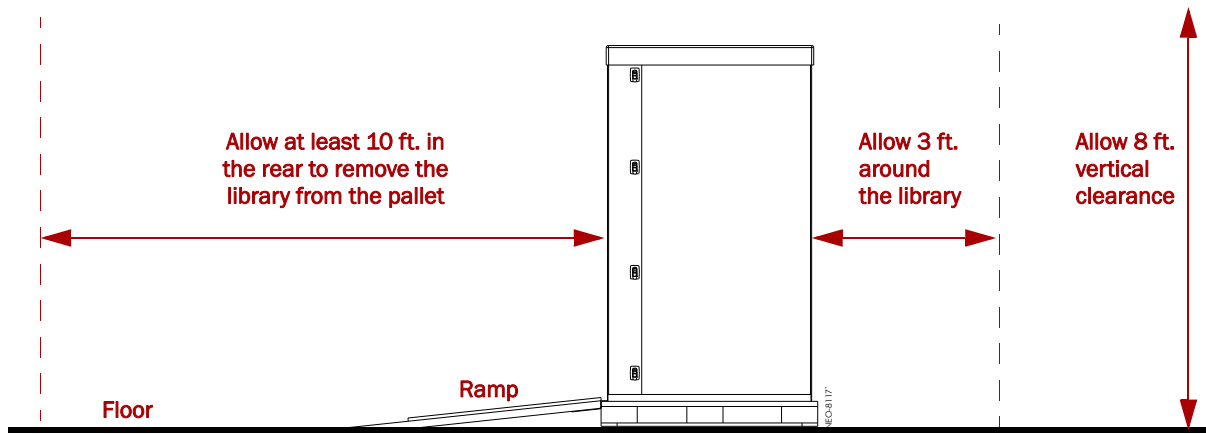

Figure 2. Unpacking Space Requirements
1. **Position** the shipping container on a level surface with adequate clearance to work around it (Figure 2 on page 2).